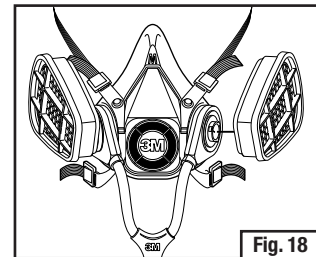

Fig. 18
3. Make a selection of cartridge and/or filter that meets your respiratory protection requirements, and attach to the outer bayonets on the 3M™ Combination Dual Airline Breathing Tubes SA-1600 or SA-2600 (Fig. 18).